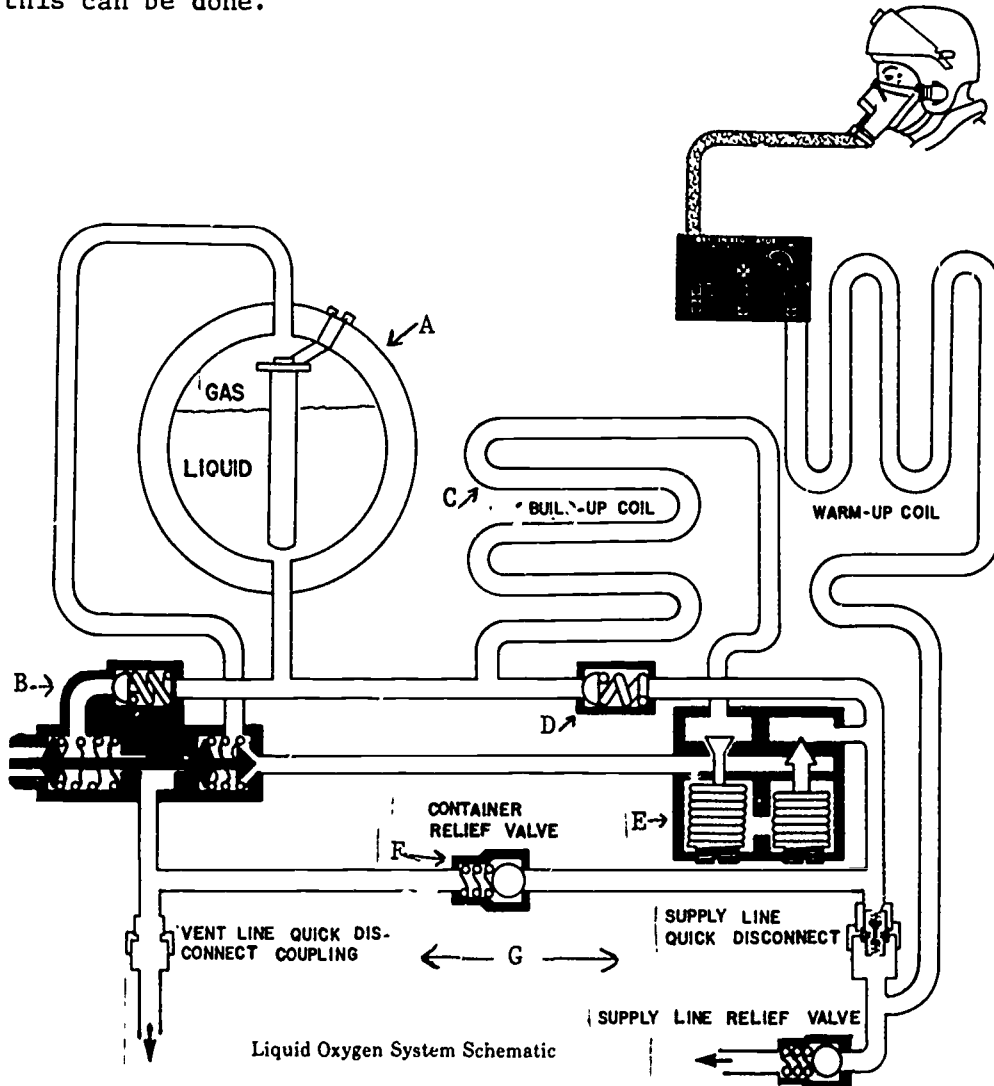

Figure 4.
Shown (in figure 4) is a complete liquid oxygen system. The converter portion of this system consists of the following parts: (A) Container, (B) Fill, Build-up and Vent Valve, (C) Build-up coil, (D) Liquid Check Valve, (E) Pressure Opening-Pressure Closing Valve, (F) Container Relief Valve, (G) Quick Disconnects; Supply Line and Vent Line.
2. The system (in figure 4) must be drained before the converter can be removed from the aircraft.